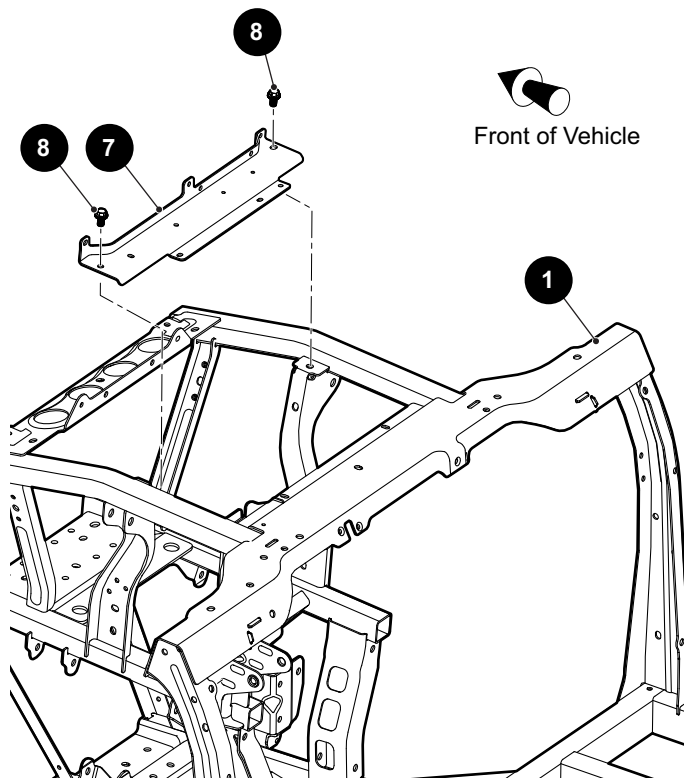

Fig. 3 Shock Tower Brace
1. Remove the bolts (31) that secure the outer legs of the dash support (5) to each side of the frame (1) (Ref. Fig. 3).
2. Remove bolts (6) that secure the inner legs of the support to the frame.